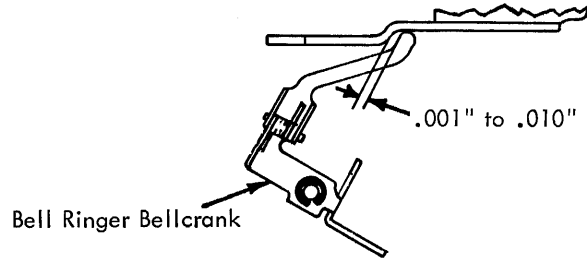

FIGURE 254.1 Line Lock Bracket
- 9.1 Line Lock Bracket Adjustable Plate (Late Style) (Fig. 254.1) - Position, with carrier in the next to last column to obtain .001" to .010" between the inclined surface and the bellringer bellcrank.